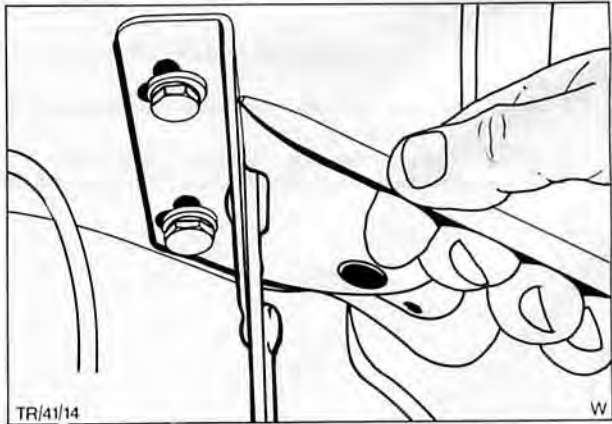

Fig. 3. Marking round hood hinges
1. Open hood, remove windscreen washer tubes, mark around hinges with a pen or pencil, Fig. 3, remove two bolts from each hinge and lift off hood.